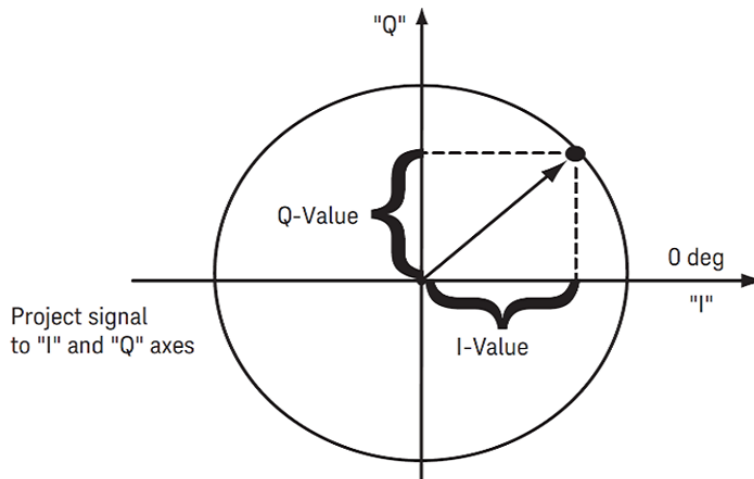

Figure 5.1: I/Q phasor diagram
The basic modulation schemes are amplitude, frequency, and phase modulation. Modulating signals can be expressed in the polar form (vector) with magnitude and phase. I/Q Modulation is widely used in digital communication due to its spectrum efficiency. IQ Modulation uses two carriers, one is known as the in-phase (I) component, and the other is the quadrature (Q) component that is phase-shifted by  $90^\circ$  from the in-phase component as shown in Figure 5.1.